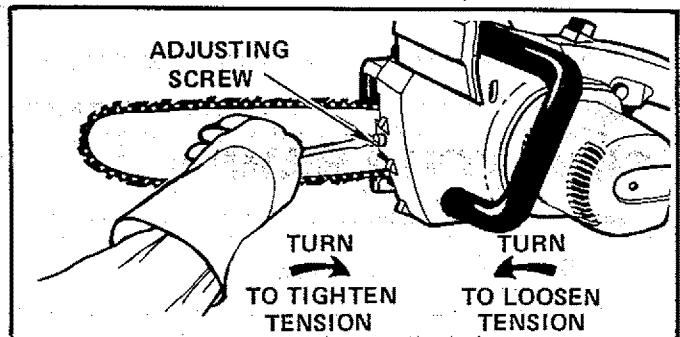

Figure 8
1. Hold the tip of the Guide Bar up and turn the Adjusting Screw clockwise just until the chain does not sag beneath the Guide Bar. Figure 8.